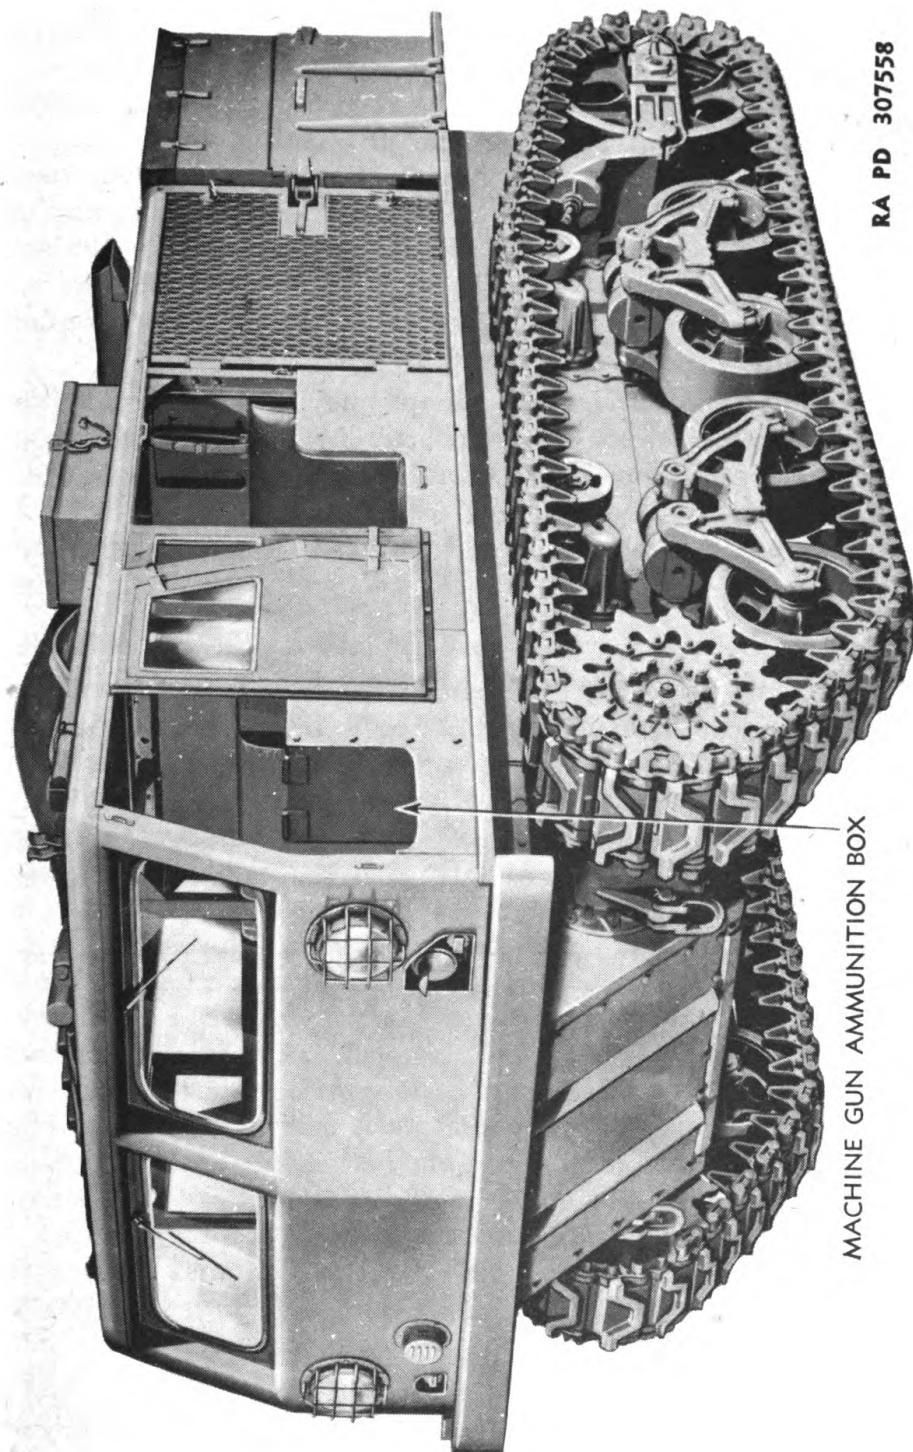

Figure 1 – 18-ton High Speed Tractor M4
- a. The instructions contained in this manual are for the information and guidance of personnel charged with the maintenance and repair of the 18-ton High Speed Tractor M4 (fig. 1). These instructions are supplementary to Field and Technical Manuals prepared for the using arms. This manual does not contain information which is intended primarily for the using arms, since such information is available to ordnance maintenance personnel in 100-series Technical Manuals or Field Manuals.